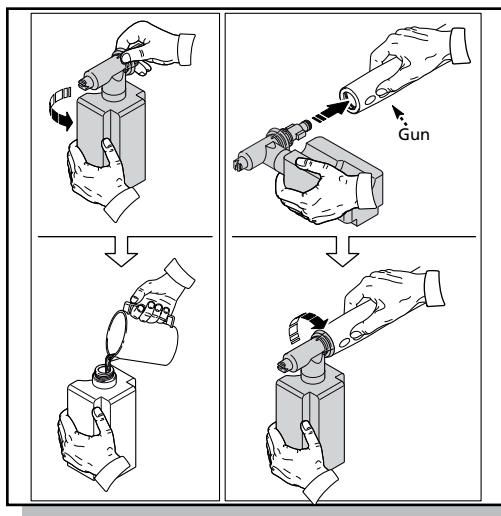
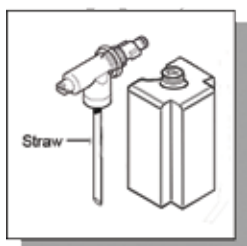

Fig. 9
Fig. 10
- When using the detergent bottle, fill it with a properly formulated detergent or cleaner with water ratio according to instructions on the container (Fig. 9). The detergent bottle comes with a straw which is fitted into the screw-on top. If you don't see the straw, look inside the bottle and attach it to the screw-on top (Fig. 10).